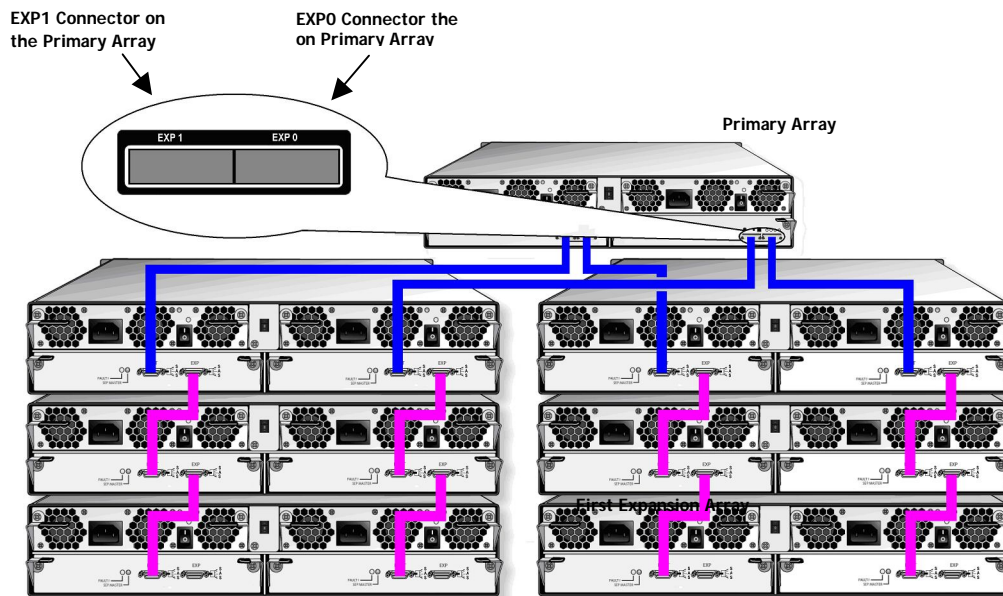

Figure 4-5. Connecting the DSN-5000-10 Expansion Array to the DSN-5000 series Primary Array
To connect the first two DSN-5000-10 expansion arrays to a DSN-5000 series primary array, use the following procedure (and refer to Figure 4-5).
5. If your system is equipped with redundant controllers, repeat the above steps for the redundant controllers as shown in Figure 4-5.